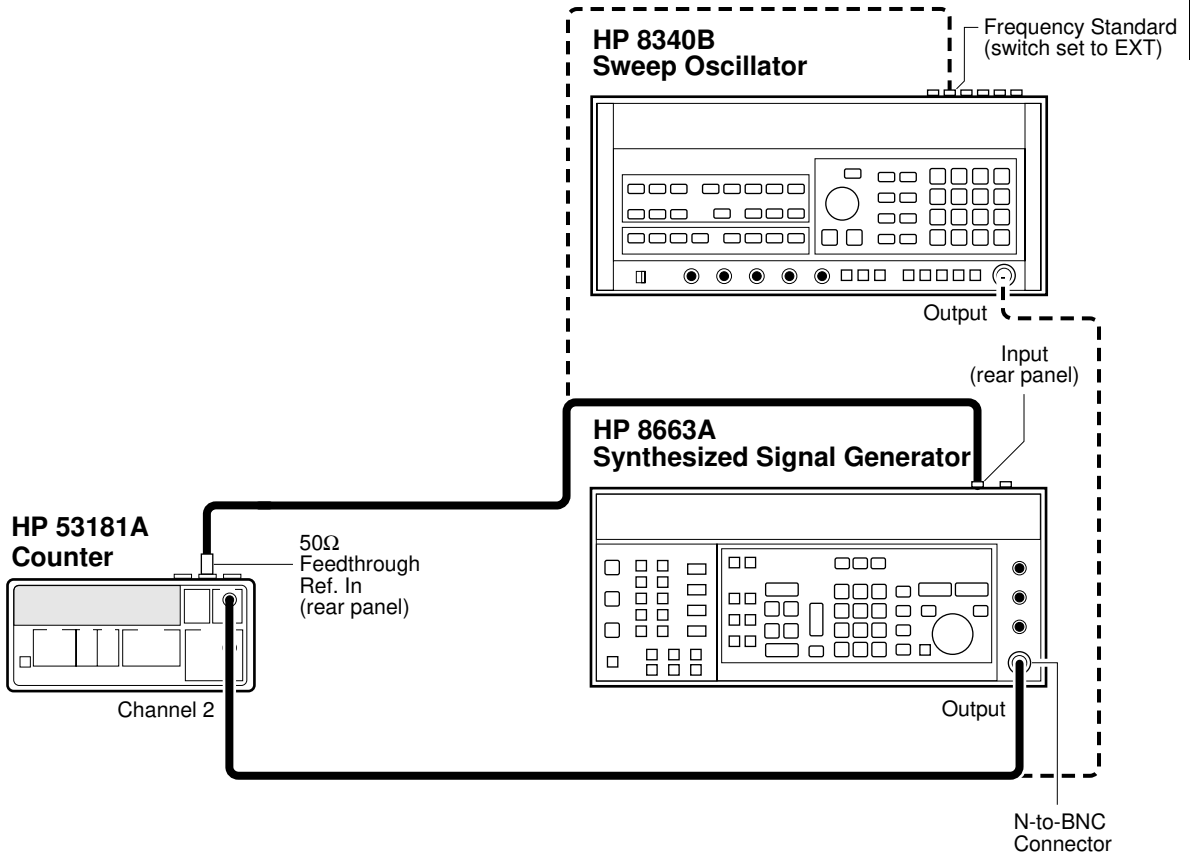

Figure 1-14. Option 015/030/050 Channel 2 Frequency Test
- 1 Set the HP 8663B Synthesized Signal Generator to output a 500 MHz, -60 dBm sine wave and connect the signal to Channel 2 of the Counter as shown in Figure 1-14.
- 1 Set the HP 8663B Synthesized Signal Generator to output a 500 MHz,  $-60$  dBm sine wave, and connect the signal to Channel 3 of the Counter as shown in Figure 1-14.**
- 1 **Disconnect the HP 8663A Synthesized Signal Generator from the Counter (see Figure 1-14), and connect the HP 8340B Sweep Oscillator to Channel 3 of the Counter.**